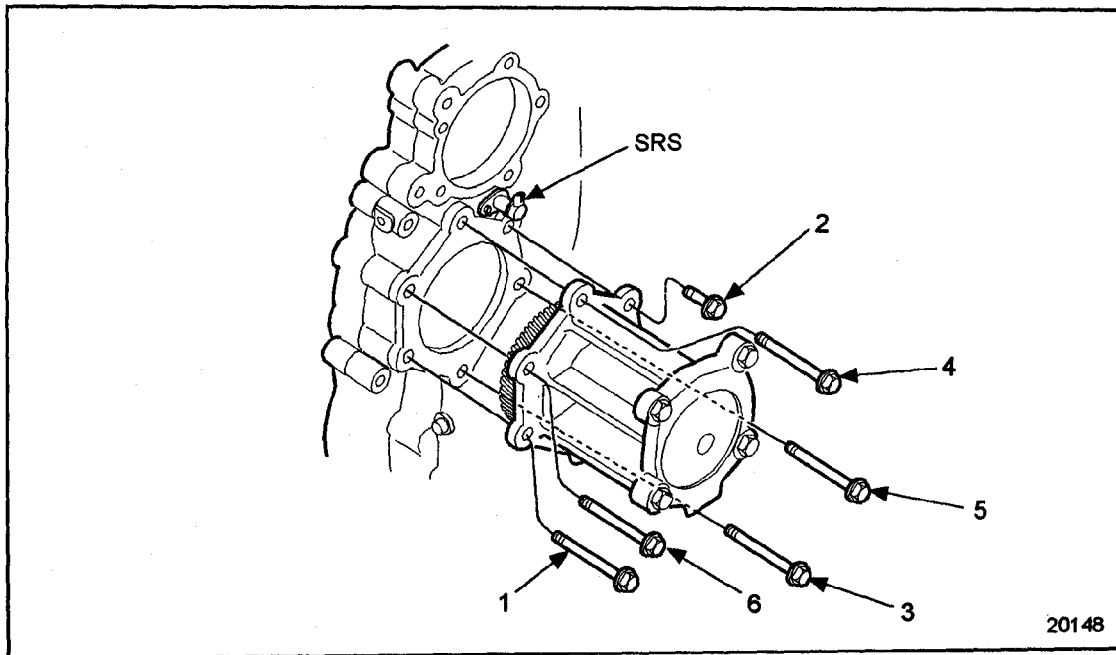

Figure 1-169 Air Compressor Drive Torque Sequence
- [f] Install the six bolts on the intake (left) side of the engine around the air compressor drive. Torque the bolts to 58-73 N·m (43-54 lb·ft), using the sequence. See Figure 1-169.